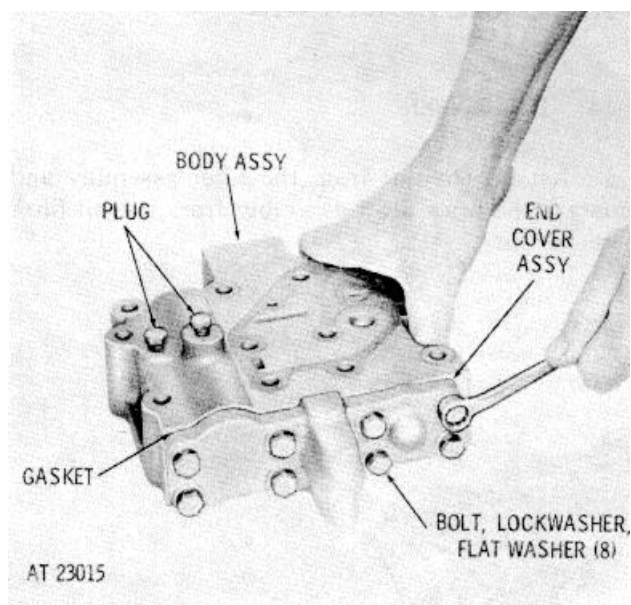
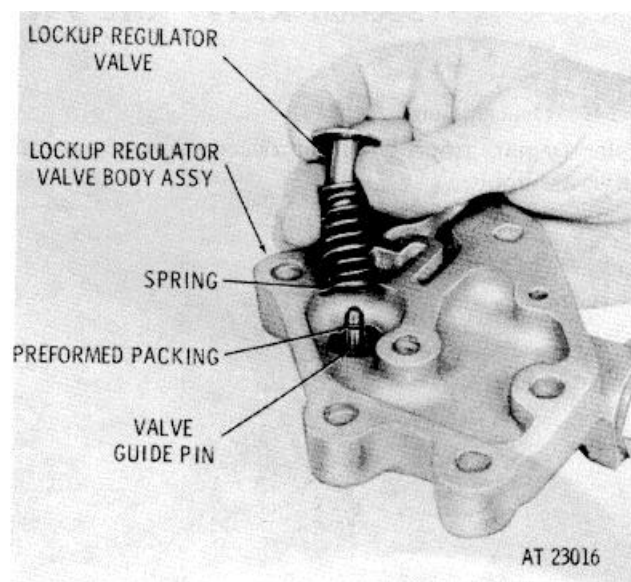

Figure 7-52. Removing for installing) main-pressure regulator end cover bolt.
Figure 7-53. Components of lockup regulator valve body assembly.
a. Remove eight bolts, eight lockwashers and eight flat washers from the valve body assembly (fig. 7-52). Remove the end cover assembly and gasket from the valve body.
- b. Do not remove valve stop (49, FO 10) from end cover (50) unless replacement of parts is necessary. If necessary, remove the stop.
- c. Remove lockup shift valve spring (45), washer (44) and shift valve (43) from valve body (41).
- d. Remove flow valve (46) from valve body (41).
- e. Remove retaining ring (35), retaining plug (36), and preformed packing (37) from valve body (41).
- f. Remove primary spring (38), secondary spring (39) and main-pressure regulator valve assembly (40) from valve body (41).
- g. Remove two pipe plugs (42) from valve body (41).
- h. Remove plug (60) from oil transfer plate (59).
- i. Remove the lockup regulator valve and spring from the lockup regulator valve body (fig. 7-53).
- j. Remove preformed packing (27, FO-10) from pin (26). Remove the pin only if replacement is necessary.
- k. Remove valve plug (25) and gasket (24). Remove spring (23) and valve (22) from regulator body (21).
a. Install valve (22) into valve body (21); the valve must move freely by its own weight within the bore. Install valve springs (23) gasket (24) and valve plug (25). Tighten the plug sufficiently to prevent leakage.
b. If pin (26) was removed, install a new pin. Press the pin into the bore until the conical end is flush with, to 0.010 below, the mounting surface of the valve body.
c. Install preformed packing (27) into the groove on pin (26).
d. Install the lockup regulator valve and spring onto the valve guide pin, as shown in figure 7-53.
e. Install plug (60) into oil transfer plate (59).
f. Install two pipe plugs (42) into valve body (41).
g. Install main-pressure regulator valve assembly (40) into valve body (41), smaller end first.
h. Install primary spring (38) and secondary spring (39) into valve body (41).
i. Install preformed packing (37), retaining plug (36) and retaining ring (35) into valve body (41), in that order.
j. Install flow valve (46) into valve body (41).
k. Install lockup shift valve (43), washer (44) and shift valve spring (45) into valve body (41), in that order.
l. If valve stop (49) was removed from end cover (40), install it. Press it in until the larger diameter shoulder seats firmly.
m. Install gasket (fig. 7-52) and end cover assembly. Install eight 5/16-18 x 1 1/4-inch bolts, eight plain washers and eight lockwashers. Tighten them to 10 to 12 pound feet torque.